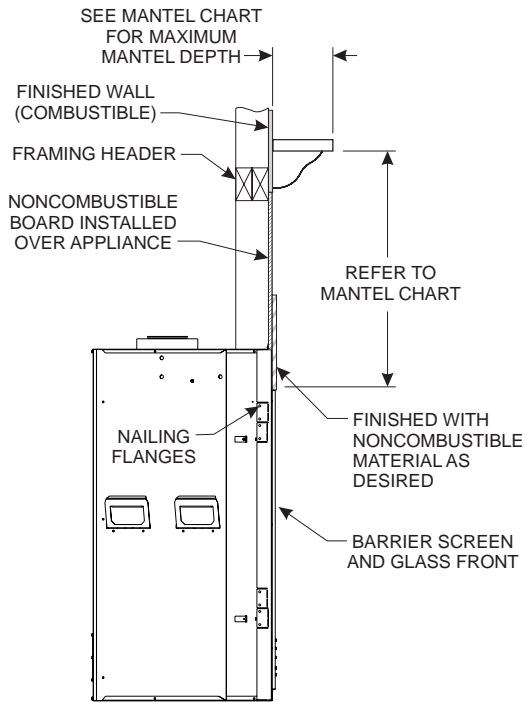

**Figure 13**
8. Replace Blower Bracket (w/ blowers attached) with (6) screws each. **See Figure 13.**